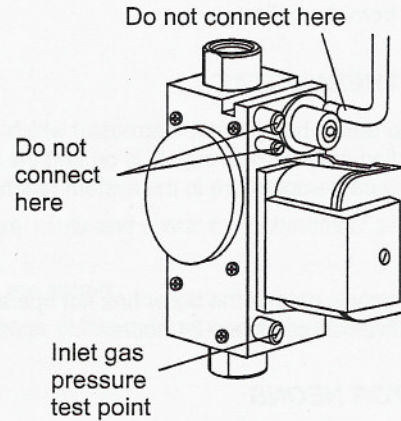

Fig. 24
2. Loosen the gas inlet pressure test point screw on the gas valve (see Fig. 24). Ensure the gas supply is on and open the boiler service cock to purge in accordance with BS 6891.